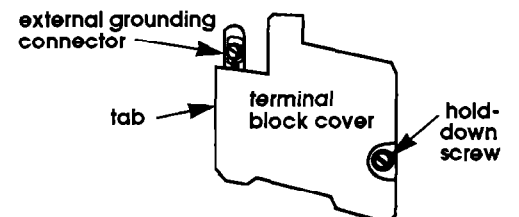

Figure 19
7. Insert tab of terminal block cover into slot of the dryer rear panel (see Figure 19). Secure cover with hold-down screw.